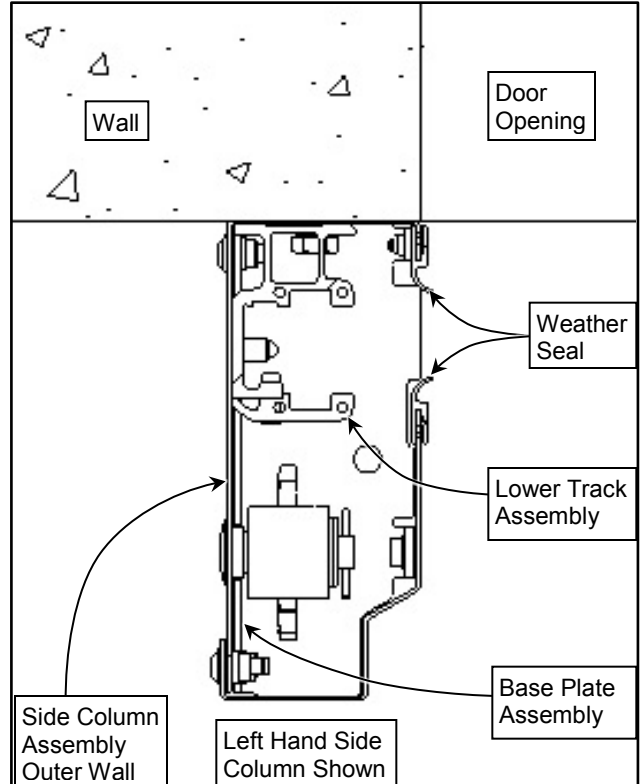

Figure 43
4. There is a length of weather seal on both the side column cover and the side column. Each weather seal can be removed by pulling on either end of the seal, while working toward the opposite end. (See Figure 43)
5. Attach the new weather seal in the same manner the old seal was attached. Make sure the seal is firmly seated along the edge. (See Figure 43)